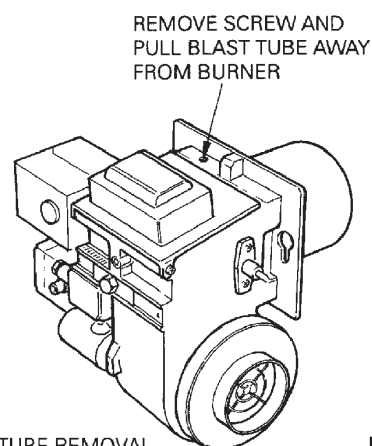
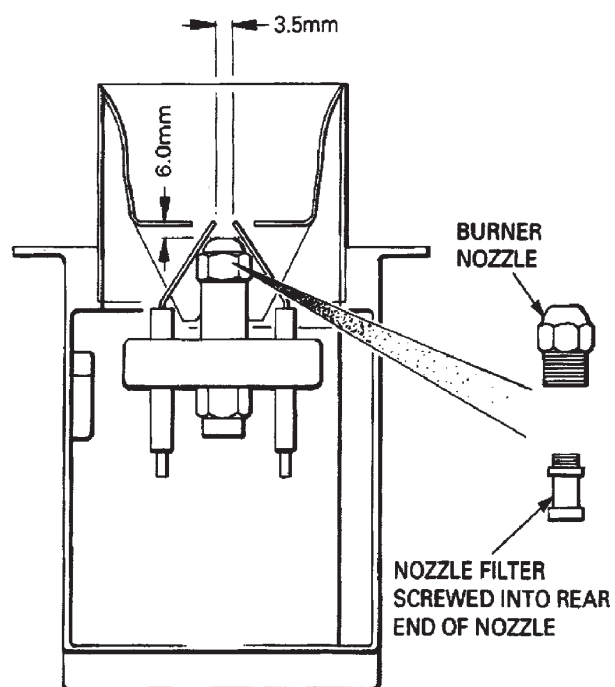

Fig.9 BLAST TUBE REMOVAL
Fig 10 BURNER DETAIL
Undo the screw holding the blast tube to the burner (fig 9). Clean the diffuser and ignition electrodes taking care not to wipe nozzle tip itself. Check electrode gap and adjust if necessary (see fig. 10). Clean inside burner, check photo-resistor, electrical connectors and that all grommets are in place.
4.1.1 To Replace Burner Nozzle (see fig 10)
4.1.2 To Clean Burner Nozzle Filter (see fig. 10)